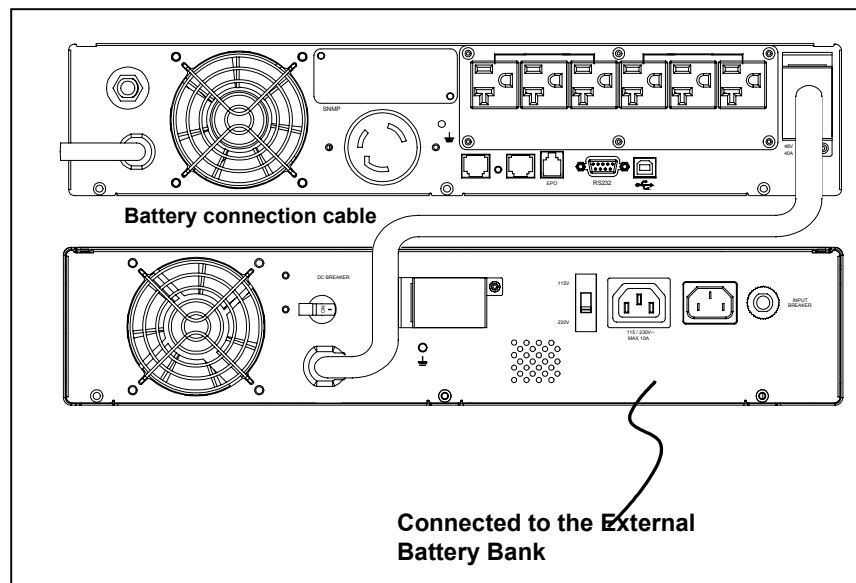

Figure 3-3 UPS Connected to the External Battery Bank
3. Utilize the battery connection cable, be attached in battery bank package, packed with the battery bank and UPS show as Figure 3-3.